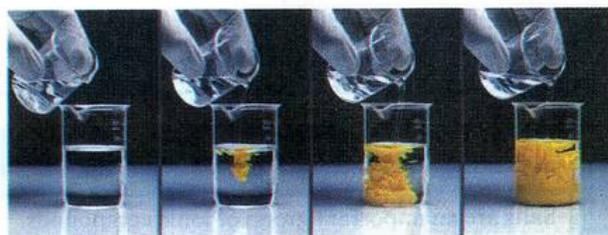

Figure 12.16: Precipitation of lead(II) iodide by mixing two colourless solutions.
Precipitation reactions are often used in analysis to identify salts such as chlorides, iodides and sulfates (Chapter 22). Figure 12.16 shows the precipitation of yellow lead iodide by mixing lead nitrate and potassium iodide solutions.
The lead(II) nitrate and potassium iodide solutions react to produce solid lead(II) iodide, leaving soluble potassium nitrate in solution. The yellow precipitate of lead(II) iodide (Figure 12.16) can be recovered by filtration. If the precipitate is washed, dissolved in hot water and re-crystallised, some quite spectacular crystals can be obtained.